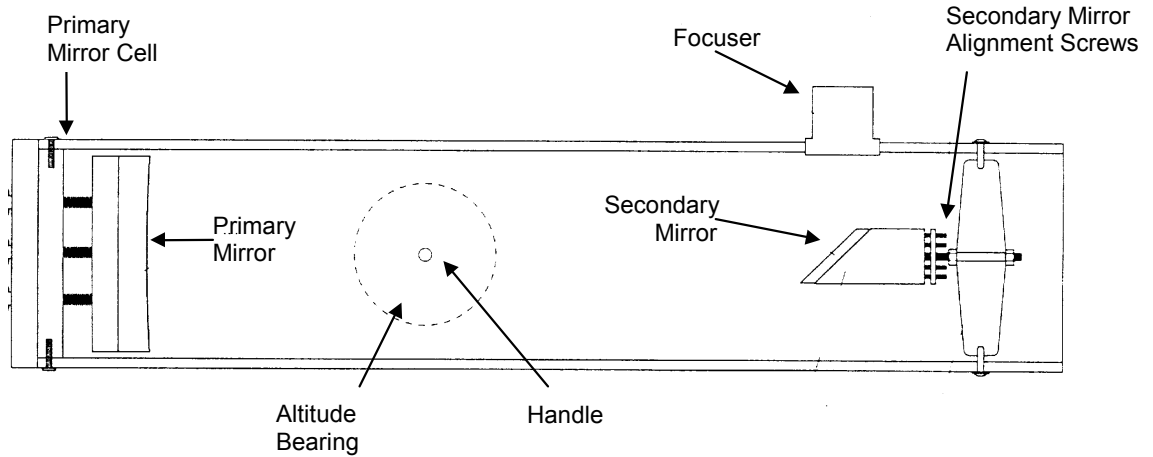
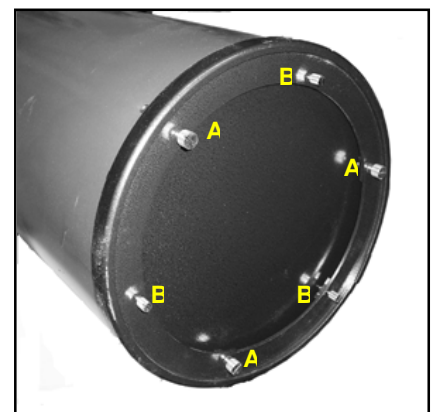

Figure 5 – The Optical Tube Assembly
Figure 12 - (A) Collimation screws
Before collimating your telescope, take time to familiarize yourself with all its components, using the diagram in Figure 5. The primary mirror is the large mirror at the back end of the telescope tube. This mirror is adjusted by loosening and tightening the three screws (A), located 120 degrees apart, on the rear cell of the telescope tube (See Figure 12). The rear cell also has three mirror support screws (B), that are finger tightened to hold the mirror in one place when transporting the telescope. The support screws need to be loosened before adjusting the collimation screws.
Figure B: Now that you can see the entire primary mirror reflected in the secondary mirror, you will notice that the secondary mirror is not perfectly centered in the primary mirror. To correct this, you must adjust the primary collimation screws located at the bottom of the primary mirror cell (see Figure 12).